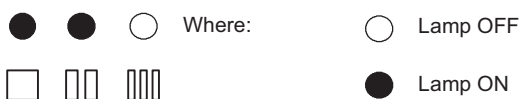

Figure 9.7
- 3 The lamps 11 should give the indication as in Figure 9.7 (maximum c.h. useful output adjustment). If not, press the reset button repeatedly to obtain it.